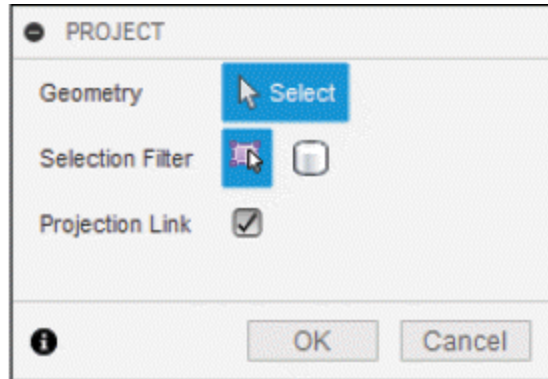

Figure-145. PROJECT dialog box
- Click on the **Project** tool from **Project/Include** cascading menu of **SKETCH** drop-down in the **Toolbar** after activating sketch on desired sketching plane. The **PROJECT** dialog box will be displayed; refer to Figure-145.